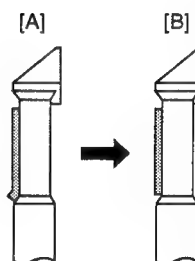

Fig. 2-7-6 No. 8 guide rough adjustment check
2. Turn the ACE tilt adjusting screw until tape wrinkle is caused at the lower flange of No. 8 guide as shown in Fig. 2-7-6 [A].
3. Turn the ACE tilt adjusting screw counter-clockwise until the tape travels along the lower flange as shown in Fig. 2-7-6 [B].